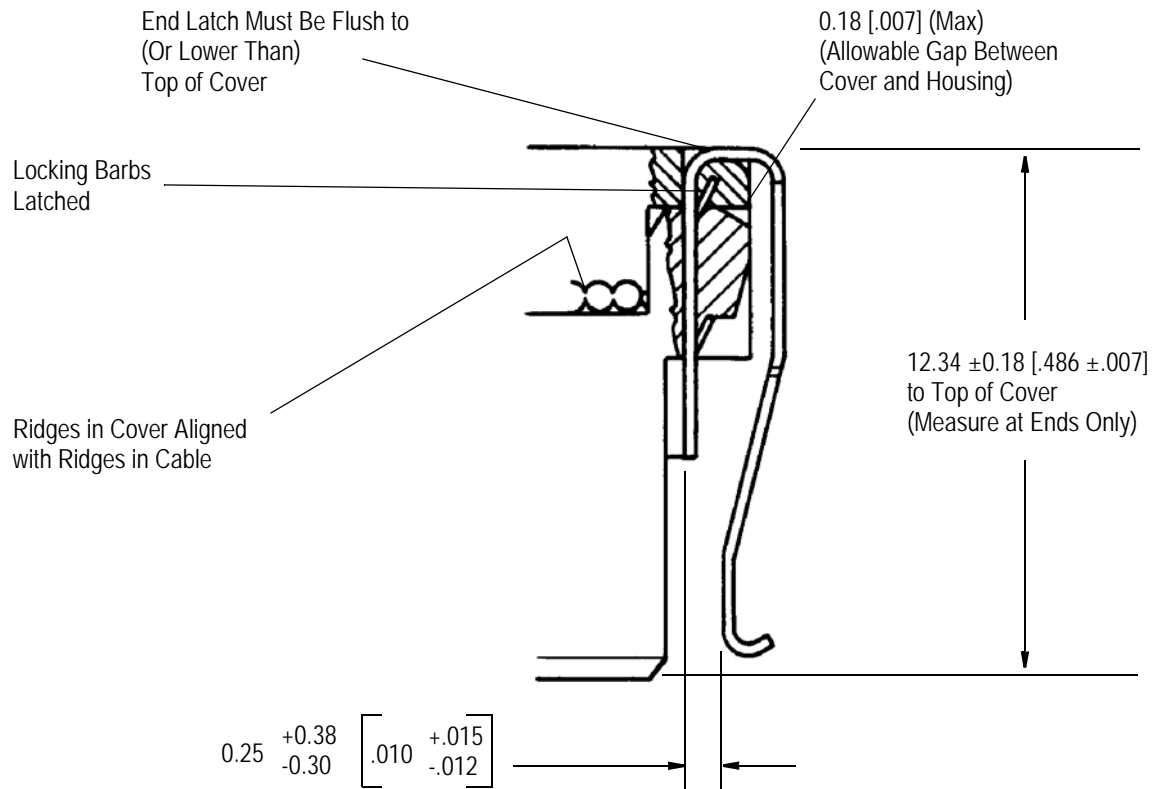

Figure 4
- Changed tolerance dimension in Figure 4
2. The cover must be firmly held to the housing by the end latches. Refer to Figure 4.
3. The end latches must be held firmly to the cover by the locking bars, as shown in Figure 4.
4. The assembly must meet the dimensional requirements of Figure 4.